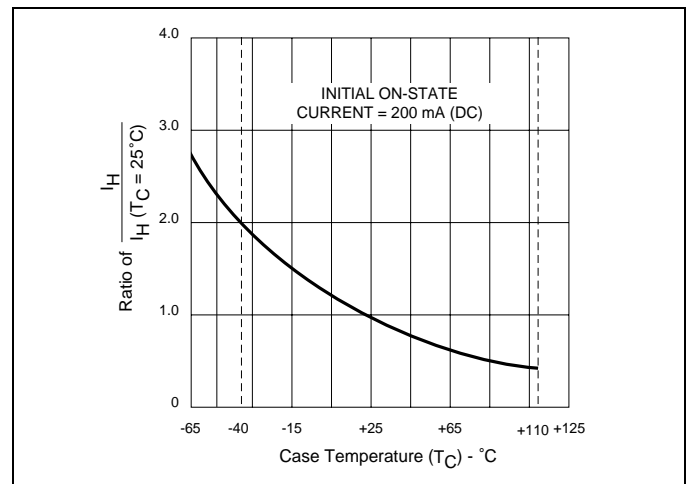

Figure 1.5 Normalized DC Holding Current vs Case Temperature
- See Figure 1.5 for I_H vs T_C .